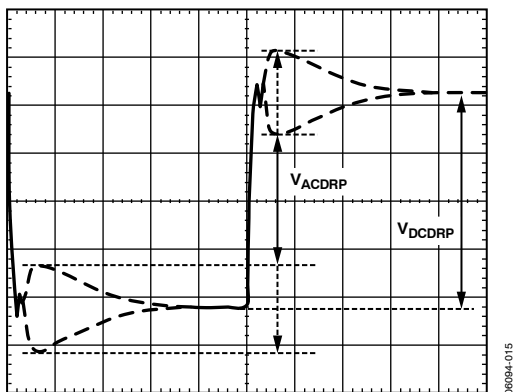

Figure 17. AC Load Line Waveform
- $$R_{PH(NEW)} = R_{PH(OLD)} \times \frac{R_{OMEAS}}{R_O} \quad (47)$$
- Measure the output waveform (use dc offset on scope to see the waveform). Try to use a vertical scale of 100 mV/div or finer. This waveform should look similar to Figure 17.
15. Use the horizontal cursors to measure V_{ACDRP} and V_{DCDRP} as shown in Figure 17. Do not measure the undershoot or overshoot that happens immediately after this step.